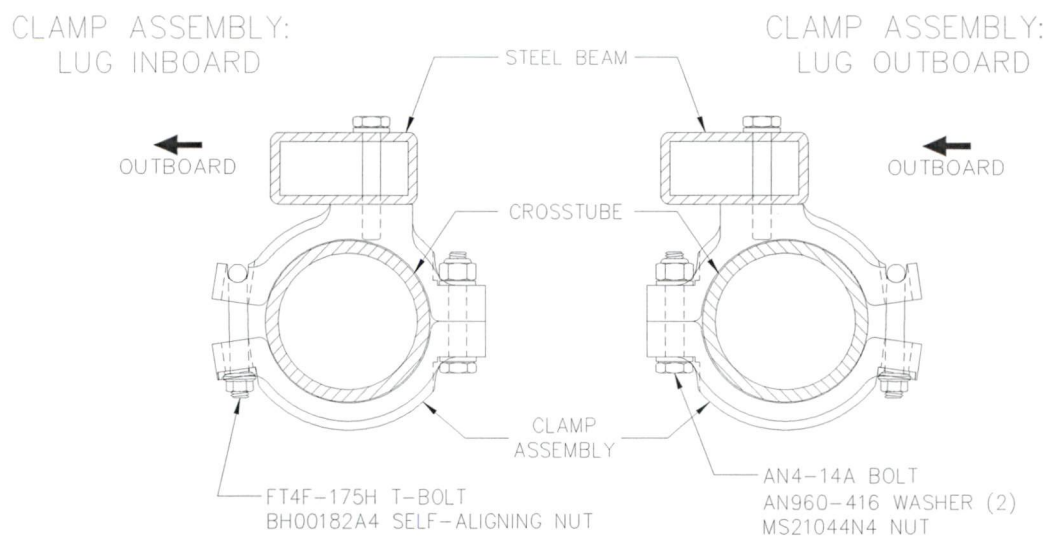

Figure 25.1 – Beam Installation – Clamp Detail
Note orientation (refer to figure 25.1 thru 25.3):
7. Torque all 1/4" fasteners (12 places) to 30-40 inch-pounds. Note: A gap will remain on the side of the clamp assembly with the T-bolt as shown in Figure 25.1.
Refer to Figure 25.1.